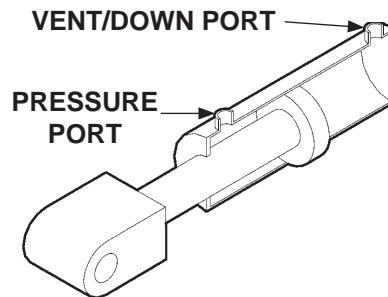

FIG. 46-1
4. Check the hydraulic cylinder. With the platform on the ground, remove the breather plug or vent line from the vent/down port of the cylinder (**FIG. 46-1**). Raise the platform even with the bed. Allow pump motor to run two seconds more while you watch for hydraulic fluid at the vent/down port. A few drops of hydraulic fluid escaping the vent/down port is normal; however, if it streams from the vent/down port, piston seals are worn. Replace seals.